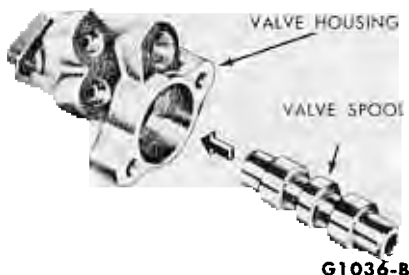

FIG. 16—Inserting Valve Spool
8. Insert the valve spool in the valve housing. Rotate the spool while inserting it in the housing (Fig. 16).